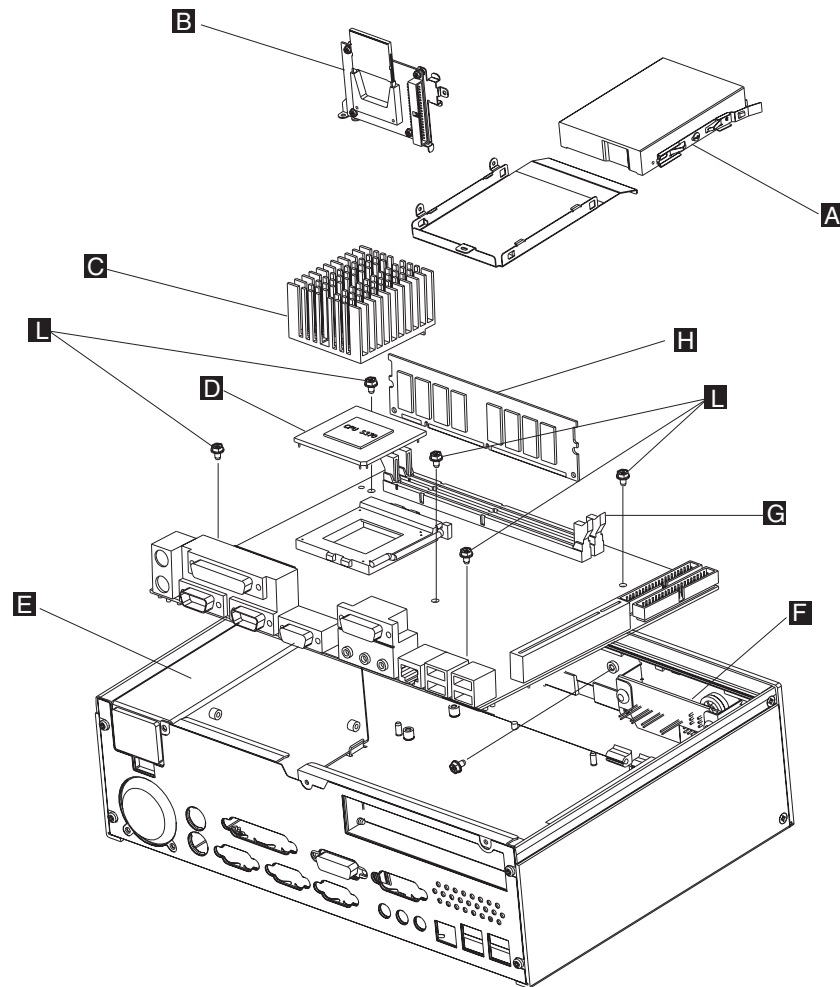
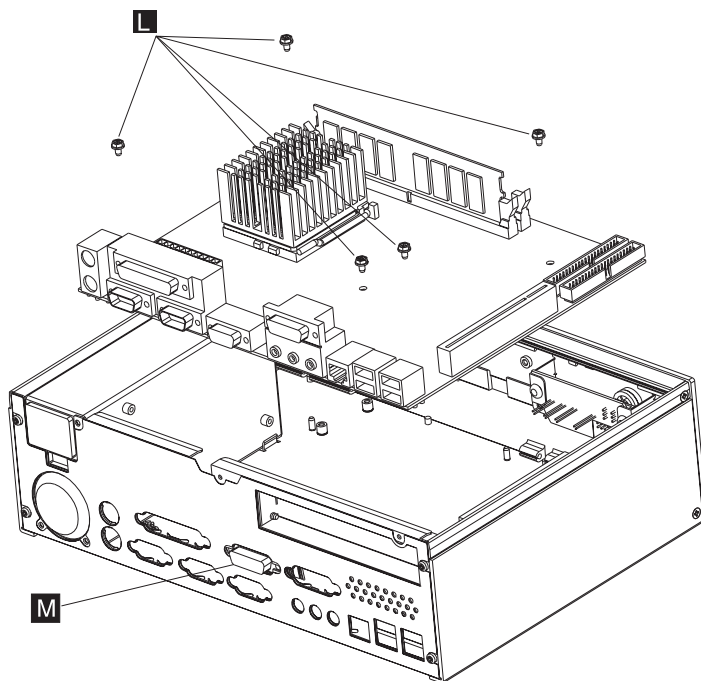

Figure 2-1. View of components
Figure 2-3. Planar board assembly
- 2) Remove the screws holding the assembly. Slide the compact flash card assembly (**B** in Figure 2-1 on page 2-1) to one side and lift out.
4. Using Figure 2-1 on page 2-1, press and lift the clamps (**G**) on each side of the dual inline memory module (DIMM) (**H**) to lift it from the socket.
5. Remove the heat sink (**C** in Figure 2-1 on page 2-1) and the CPU (**D**):
6. Remove the LED assembly (**F** in Figure 2-1 on page 2-1) by removing the screws and sliding it to one side.
9. Using Figure 2-3 or Figure 2-1 on page 2-1, remove the screws (**L**) holding the planar board to the frame.